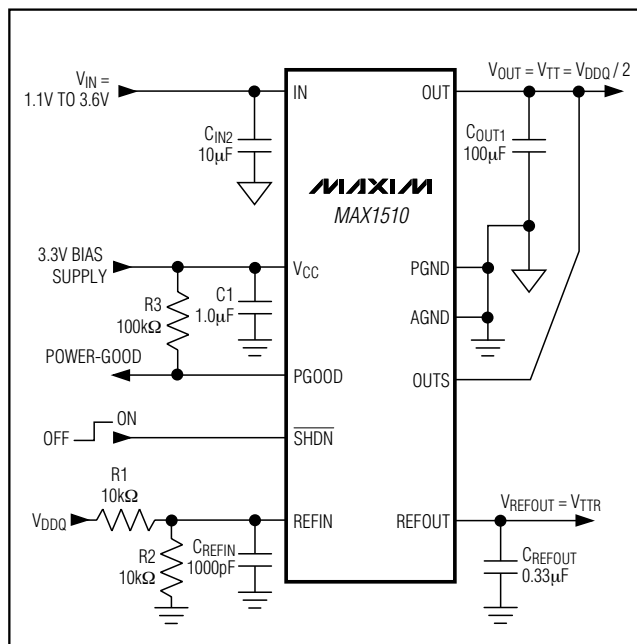

Figure 1. Standard Application Circuit
( $V_{IN} = 1.8V$ ,  $V_{CC} = 3.3V$ ,  $V_{REFIN} = V_{OUTS} = 1.25V$ ,  $\overline{SHDN} = V_{CC}$ , circuit of Figure 1,  $T_A = -40^{\circ}C$  to  $+85^{\circ}C$ , unless otherwise noted. Typical values are at  $T_A = +25^{\circ}C$ .) (Note 1)
(Circuit of Figure 1.  $T_A = +25^\circ\text{C}$ , unless otherwise noted)
The MAX1510 is a low-voltage, low-dropout DDR termination linear regulator with an external bias supply input and a buffered reference output (see Figures 1 and 2). VCC is powered by a 2.7V to 3.6V supply that is commonly available in laptop and desktop computers. The 3.3V bias supply drives the gate of the internal pass transistor, while a lower voltage input at the drain of the transistor (IN) is regulated to provide VOUT. By using separate bias and power inputs, the MAX1510 can drive an n-channel high-side MOSFET and use a lower input voltage to provide better efficiency.
The MAX1510 regulates OUTS to the voltage set at REFIN, making the MAX1510 ideal for memory applications where the termination supply must track the supply voltage. Typically, REFIN is set by an external resistive voltage-divider connected to the memory supply (VDDQ) as shown in Figure 1.